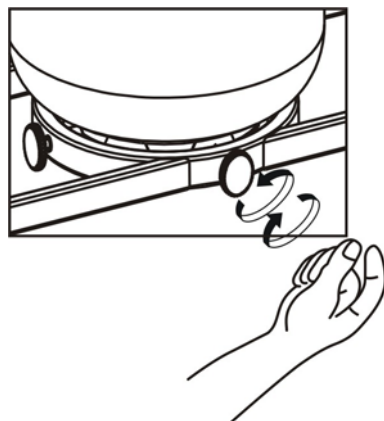

Figure 6
6. Tighten the threaded knobs (G) found on the tank tray so that the LP tank cannot move from side to side. Do not remove the plastic cap from the end of the threaded section. See figure 6.